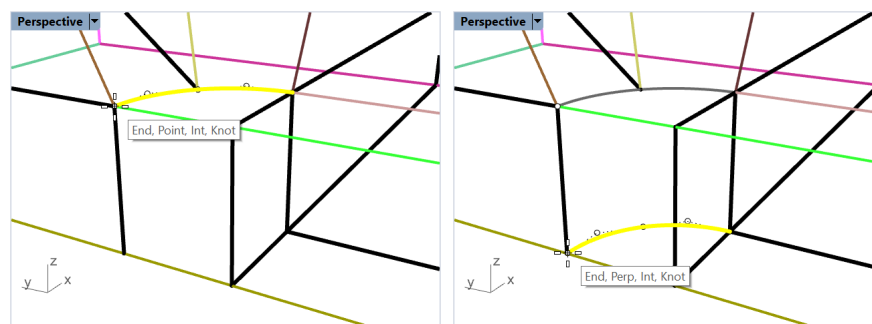

Figure 40: Copying the arcs.
11. Select the bottom two arcs and copy them using the **_Copy** command. For *Point to copy from*, select the left corner of the arcs as shown in Figure 40, then, within command options, click on *Vertical* to set it to Yes, and drag the corner down until it hits the bottom line and the mouse tooltip is as in Figure 40.